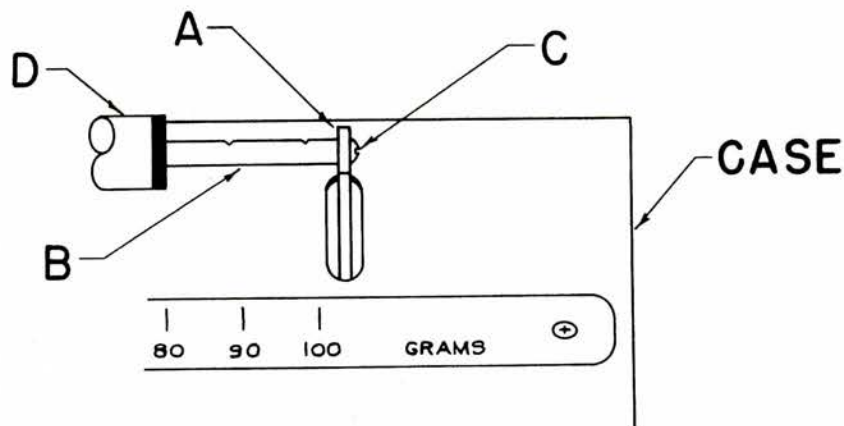

Figure 1
1 ATTACH THE NOTCHED BEAM (OR SMOOTH TARE BEAM). To avoid damage, the beam is not attached to the balance when shipped. Figure 1 illustrates the assembly of the beam (B) to the two brackets (A) which extend through the front of the balance case. Use the screws (C). The notched beam when used should be assembled with the notches facing up and with the widest ungraduated interval at your left. Do not remove slide weight (D) from the beam. Should the slide weight (D) become separated from the beam (B) reassemble with the colored or indicator edge of the slide weight facing the right side of the balance. The small dot on the indicator portion of the slide weight (D) must always be under the beam (B). When the smooth tare beam is used, no positioning of the beam is required, but if the weights do become disengaged from the beam, reassemble with the smaller of the two sliding weights at the left.